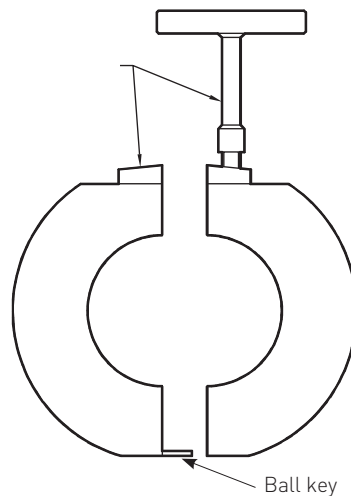

FIGURE 2
- 5.2. Remove each half of the ball from the valve using 'T-bars'. The half without the bottom ball key must be removed first and when re-assembling insert last (Figure 2).